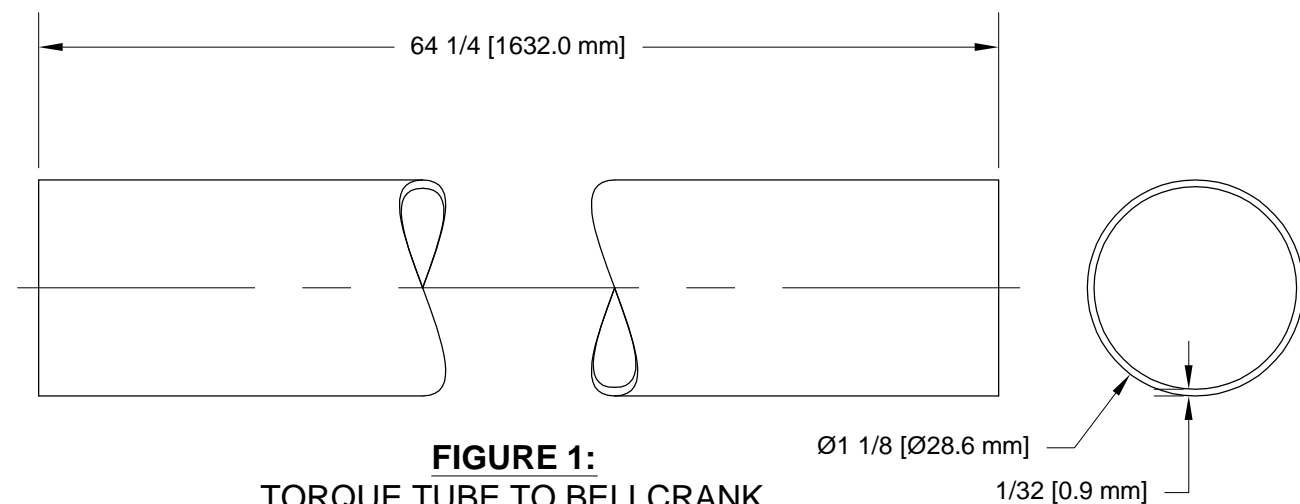

FIGURE 1:
Step 2: Cut-out Page 23-11, Figure 1 and use it as a wrap-around template for locating the rivet holes in both ends of both CS-00012 Torque Tube to Bellcrank Pushrods.